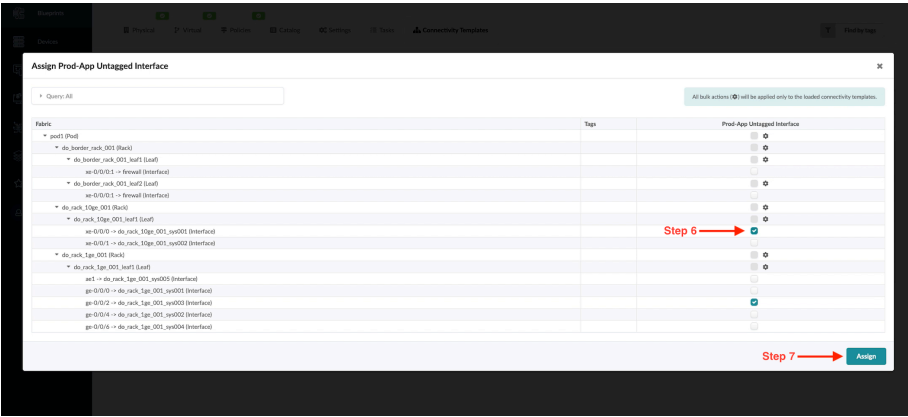

Figure 7.35 Assigning Connectivity Template to a Switch Port
Step 6: Select the port that is to be assigned to the correlating VNI. See Figure 7.35.